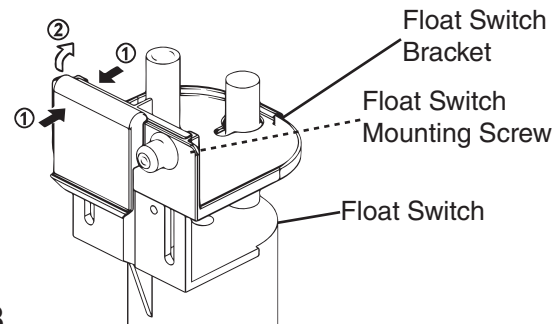

Fig. 8
- 5) Locate the FS behind the pump motor. Next, as shown in Fig. 8, pinch the FS bracket where indicated (1) and pull it forward diagonally (2) to unhook the FS, then remove the screw securing the FS to the bracket.